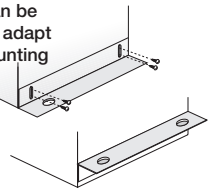

Figure 5
- Attach adjustable mounting brackets to fan, but leave the screws loose until proper height is determined, shown in Figure 5.